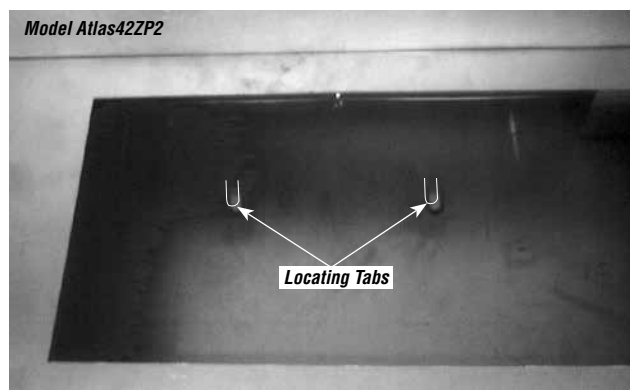
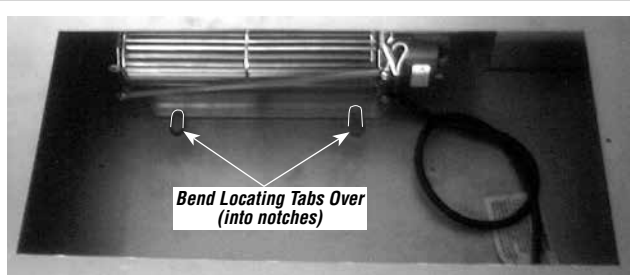

Figure 21 - Atlas42ZP2 Shown
Figure 22 - Atlas42ZP3 Shown
Step 4. Locate the tabs shown in *Figure 21*. Position the blower assembly so that the tabs (located on the cabinet base) are seated in the notches of the blower bracket. Bend the tabs over to secure the blower assembly (see *Figure 22*).